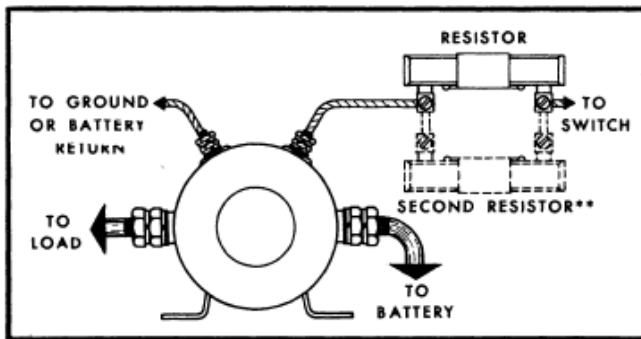

Figure 4
4. Make connections as shown in Figure 3 for 12-volt system, or as shown in Figure 4 for 24-, 30- or 32-volt system.